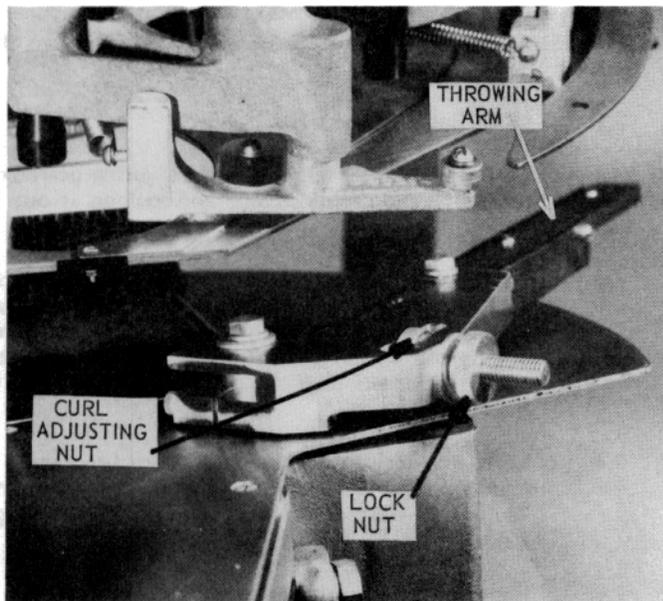

Figure 14 – Target Throwing Arm
1.2 Turn the curl adjusting nut (see Figure 14). Moving the throwing arm toward the target will correct curl to the right. Moving the arm away from the target will correct curl to the left.